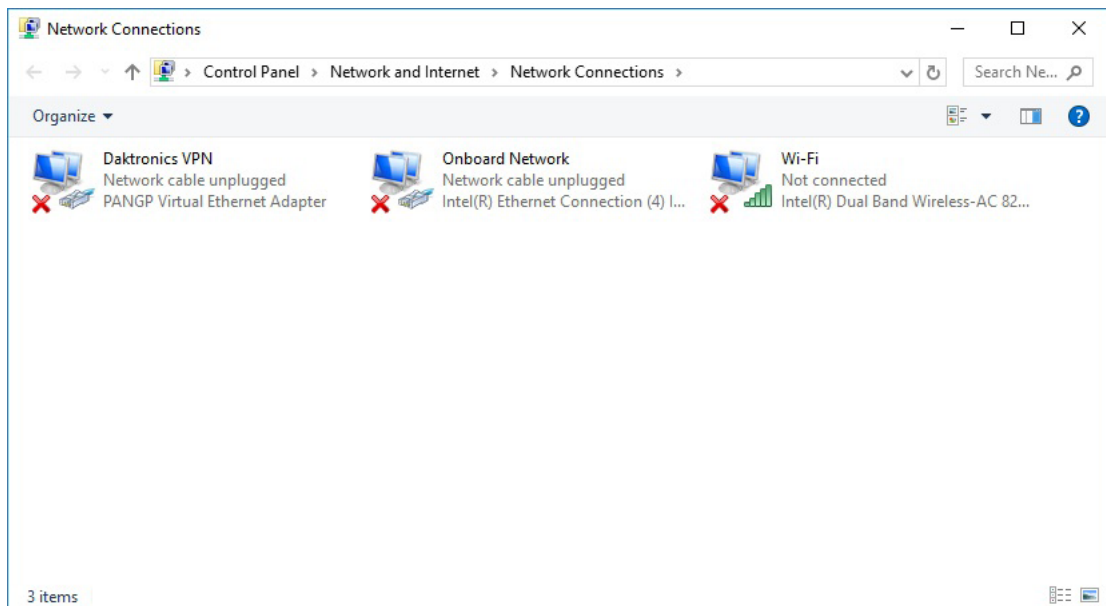

Figure 8: Network Connections
2. In the *Network Connections* window (**Figure 8**), double-click on the wired adapter that will be used to connect to the audio network.